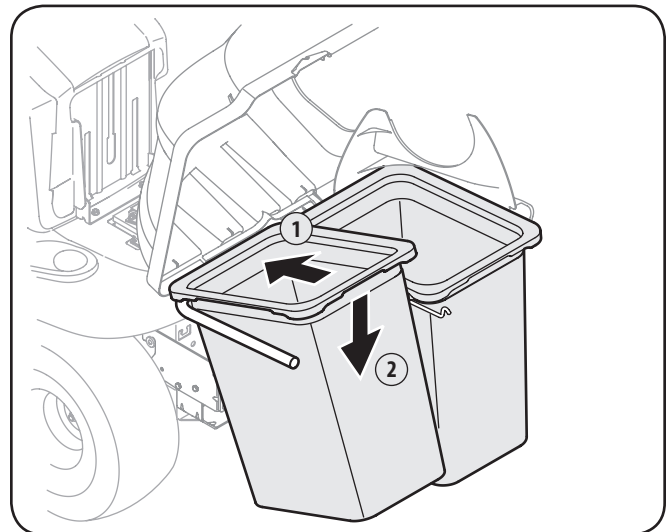

Figure 4-19
8. Install both bag assemblies onto the bag support brackets by inserting the front edge in first, as seen in Figure 4-19, and setting the back edge down until it fits into the assembly.